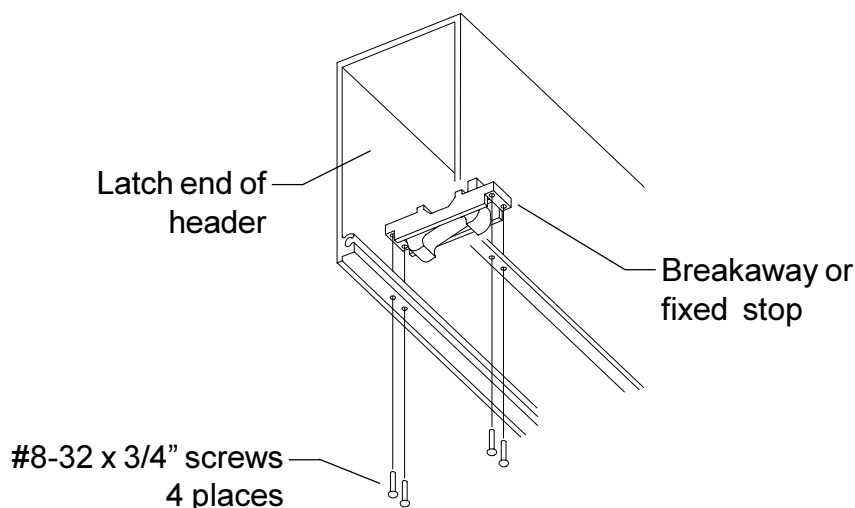

Figure 7-2
- 7.2. Install the breakaway or fixed stop inside the header approximately 2-1/4” from the latch end using the four #8-32 x 3/4” screws supplied with the stop (Figure 7-2). Mounting holes for the stop have been prepared in the header at the factory.